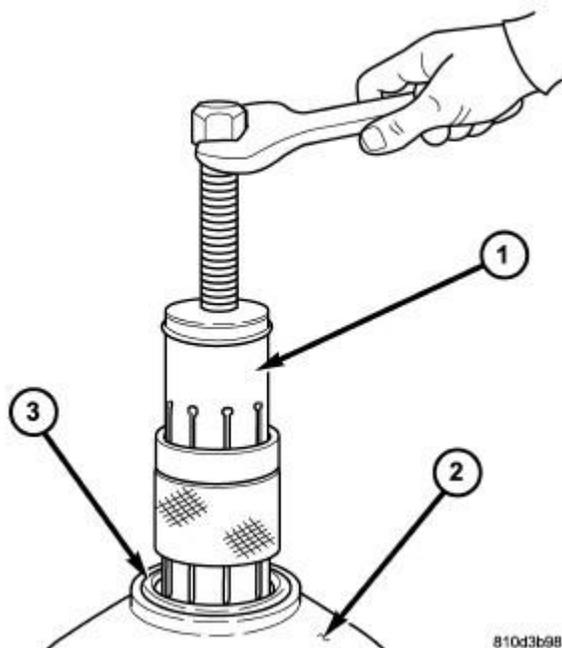

Fig. 99: Removing Output Shaft Bearing
9. Remove the output shaft bearing (3). Refer to **Fig. 99**.